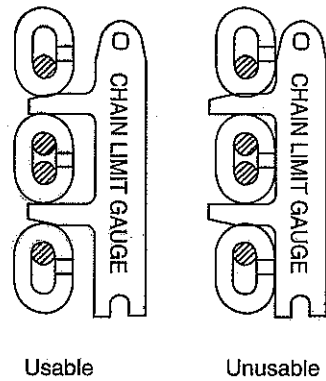

Figure 4 Measuring the Pitch
2. Chain: If chain binds jumps or is noisy, check for cleanliness and proper lubrication. If trouble persists, inspect chain for wear and elongation. (See Fig. 4 and 5).